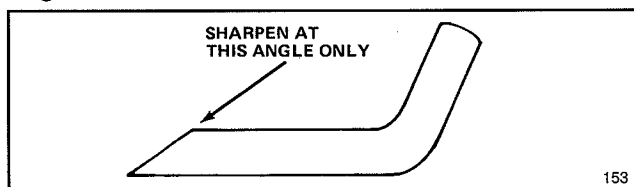

Figure 21
6. **SHARPENING BLADE**—Using a file, sharpen top side of blade and maintain original cutting angle (Fig. 21). The blade will remain balanced if same amount of material is removed from both cutting edges.